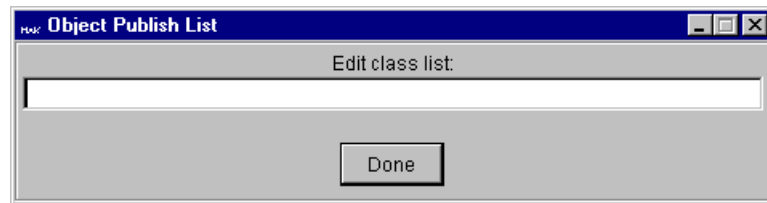

Figure 4-5. Object Publish List dialog box
2. A dialog box opens with an editable text box (Figure 4-5).